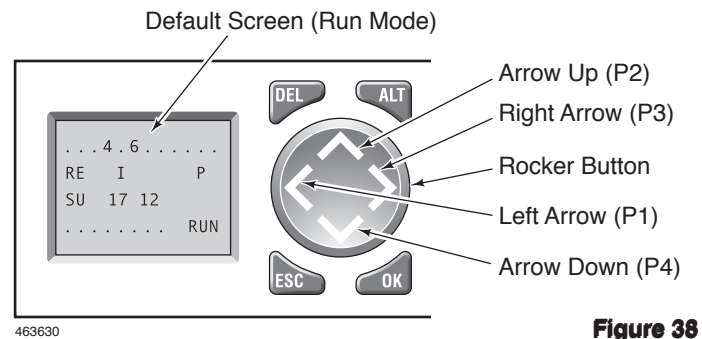

Figure 38
- Using the Rocker button, press Right Arrow (P3) until the desired menu is selected (FULL OPEN or PARTIAL OPEN). See Figures 38 and 39.